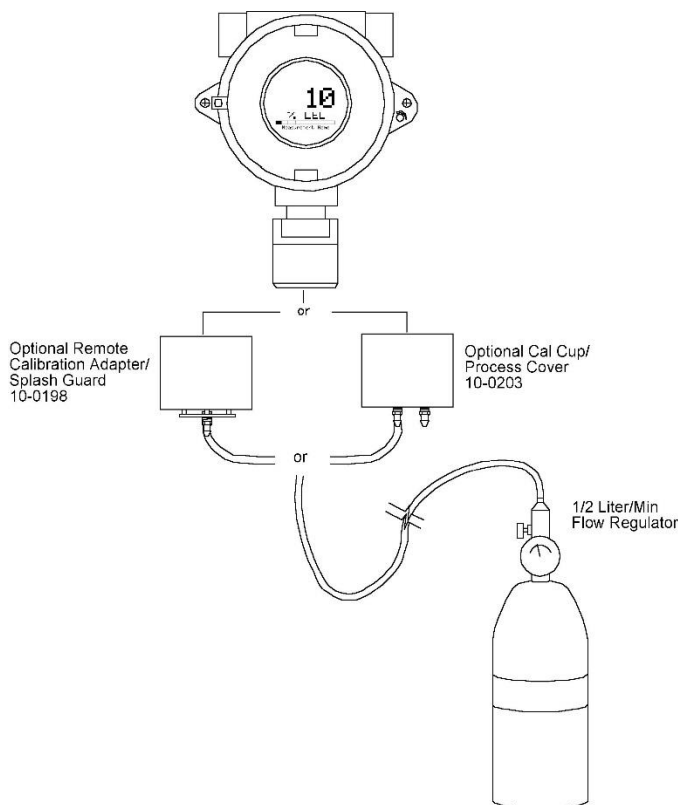

Figure 4-1 Calibration Gas Input
4. Apply a clean Zero Gas (Figure 4-1), using the Cal Cup, part number 10-0203, or be sure there is no background target gas in the monitored area. After the reading is stable (approximately one minute), swipe the EDIT key to Set the Zero Calibration. To skip the Zero calibration and go to the Span calibration swipe the NEXT key. When a message that the Zero calibration was completed successfully, proceed to the next step.
5. Apply the correct, as indicated, Span gas (Figure 4-1) at 0.5 liters/min. After the reading is stable (approximately one minute), swipe the EDIT key to Set the Span Calibration. To skip the Span Calibration swipe the NEXT key. When a message that the Span calibration was completed successfully, the SenSmart 6000 will exit back to the Data Display Screen.